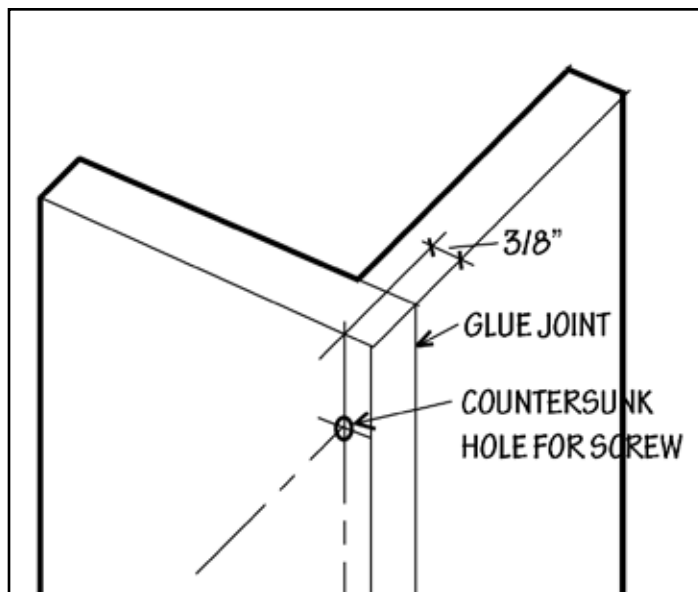

Figure 1. Glue and screw corner posts
2. Glue and screw together the four corner posts (L-1 through L-8) using the 1x10 boards as shown on page 4 and in Figure 1. Use 1-5/8" course-thread wood screws. Note that L-1 and L-2 form one post, as do L-3 and L-4; L-5 and L-6; and L-7 and L-8. The diagram at the bottom of page 4 shows where the four posts are positioned.